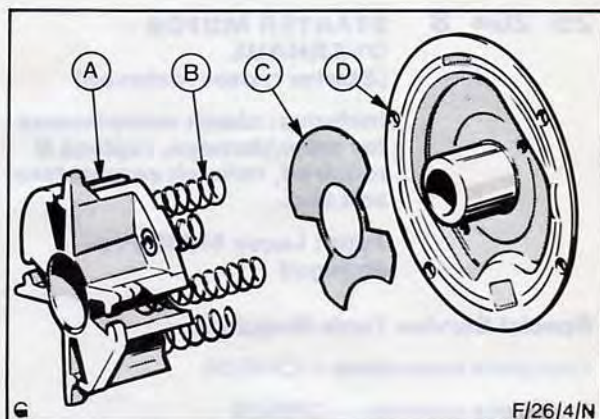

Fig. 32. Brush box and commutator end plate
9. Position brush box gasket on commutator end plate, align brush box into position on gasket, Fig. 32, and rivet brush box to commutator end plate.